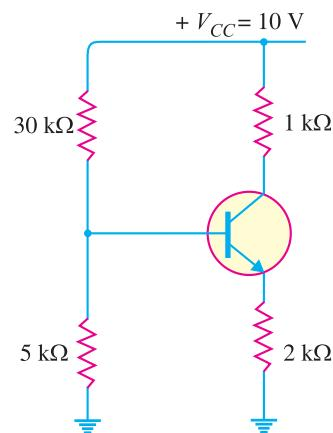

Fig. 9.51
8. In a transistor circuit shown in Fig. 9.51, find the operating point. Assume silicon transistor is used. $[I_C = 0.365mA, V_{CE} = 8.9V]$